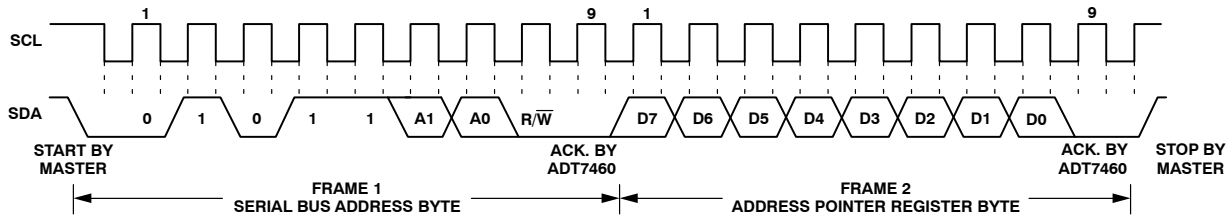
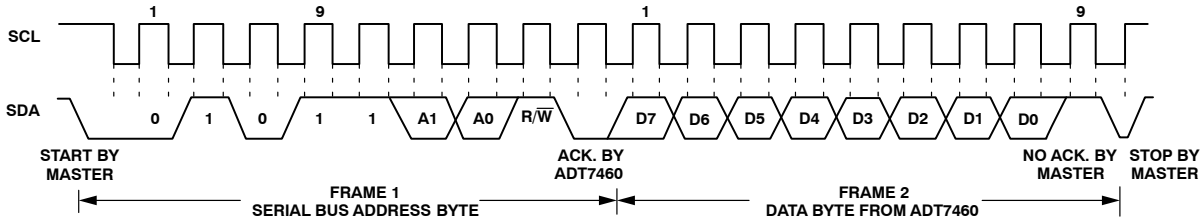

Figure 18. Writing to the Address Pointer Register Only
Figure 19. Reading Data from a Previously Selected Register
1. If the ADT7460's address pointer register value is unknown or not the desired value, it is first necessary to set it to the correct value before data can be read from the desired data register. This is done by performing a write to the ADT7460 as before, but only the data byte containing the register address is sent because data is not to be written to the register. This is shown in Figure 18. A read operation is then performed, consisting of the serial bus address, R/W bit set to 1, followed by the data byte read from the data register. This is shown in Figure 19.
2. If the address pointer register is known to be already at the desired address, data can be read from the corresponding data register without first writing to the address pointer register, so Figure 18 can be omitted.
In Figure 17 and Figure 19, the serial bus address is shown as the default value 01011(A1) (A0), where A1 and A0 are set by the address select mode function previously defined.